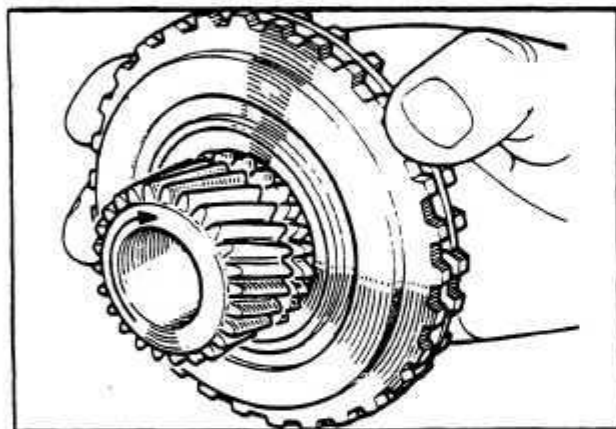

Fig. 54 ROLLER CLUTCH OPERATION
4. Check the operation of the roller clutch. When holding the outer hub, the sun gear on the input gear hub must be free to rotate clockwise and lock itself when an attempt is made to turn it counter-clockwise. *Fig. 54*